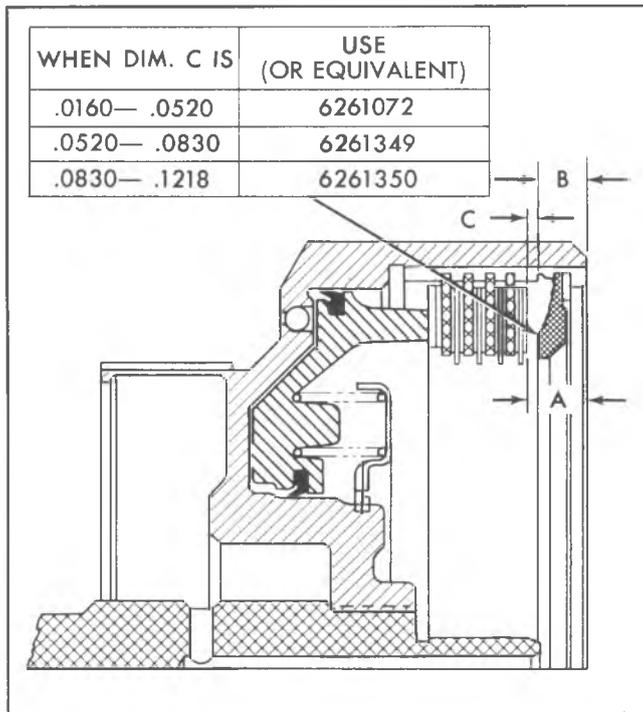

Fig. 84M-Determining Selective Fit for Forward Clutch Pressure Plate
6. Install forward clutch pressure plate (selective fit) and retaining ring. Using chart on Figure 84M to select correct pressure plate (dimension C), measure distance from the top of clutch pack to the top of clutch drum (dimension A). Measure distance from